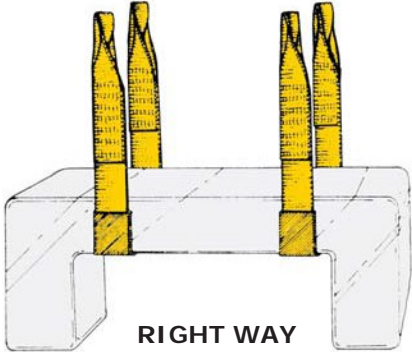

Figure 8
**HITCH: BASKET** - Basket hitches, whether single or double, may be used successfully in a variety of applications. However, they have inherent limitations, which Figures 8 and 9 depict.